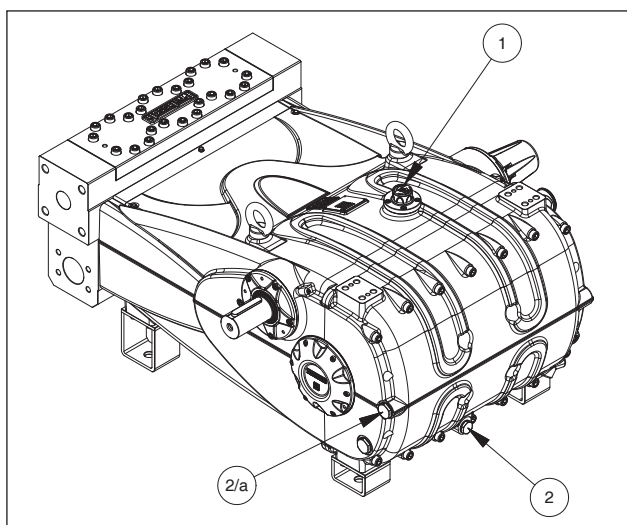

Fig. 1
To remove the oil, remove the oil dipstick pos. ①, Fig. 1, and then the drain plug pos. ②, Fig. 1, located on the back side of the casing. Use the plug in pos. (2/a) on the vertical version.